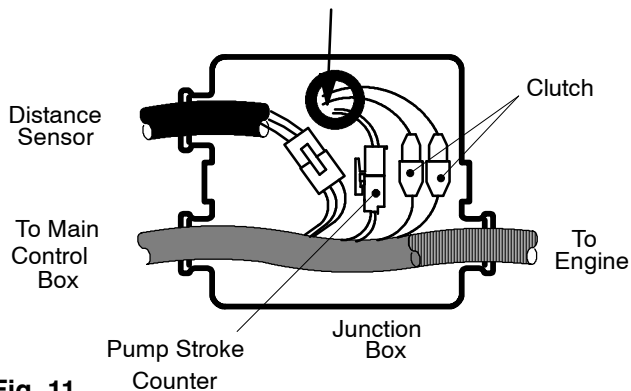

Fig. 11
3. Fig. 11. Disconnect pump stroke sensor and clutch cables.
12. Fig. 11. Connect pump stroke sensor and clutch cables.
3. Fig. 11. Disconnect all necessary wiring.
3. Fig. 11. Connect all necessary wiring.